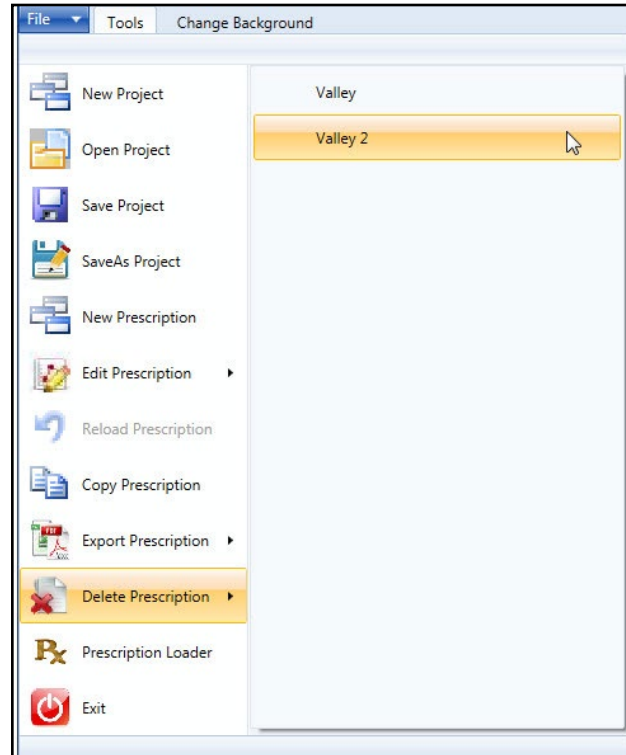

Figure 38-1 Delete Prescription
2. Select **Delete Prescription** in the VRI drop-down menu, and click on the name of the prescription in the right-hand column. See Figure 38-1.